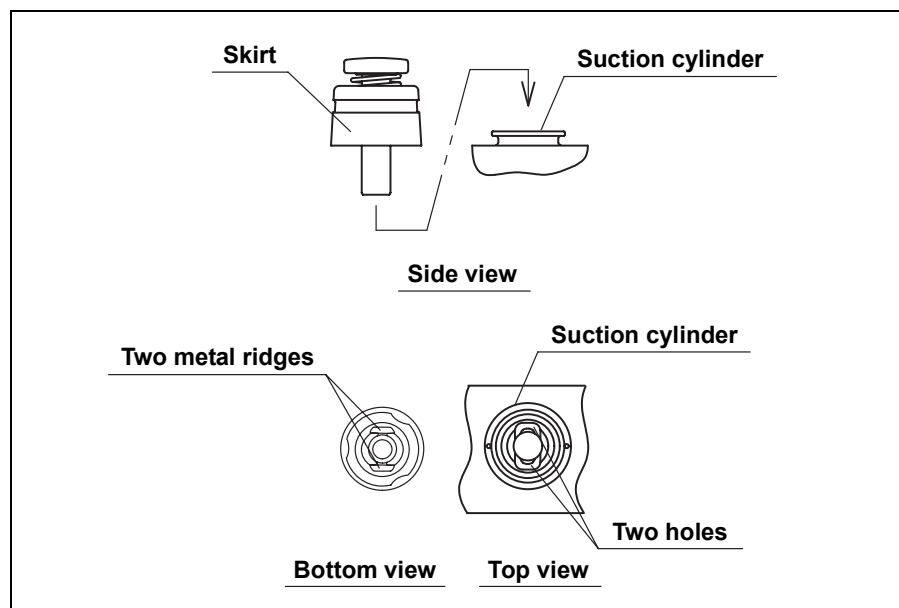

Figure 3.12
2. Attach the suction valve to the suction cylinder of the endoscope (see Figures 3.12 and 3.13). Confirm that the valve fits properly without any bulging of the skirt. Also confirm that the valve cannot be rotated.